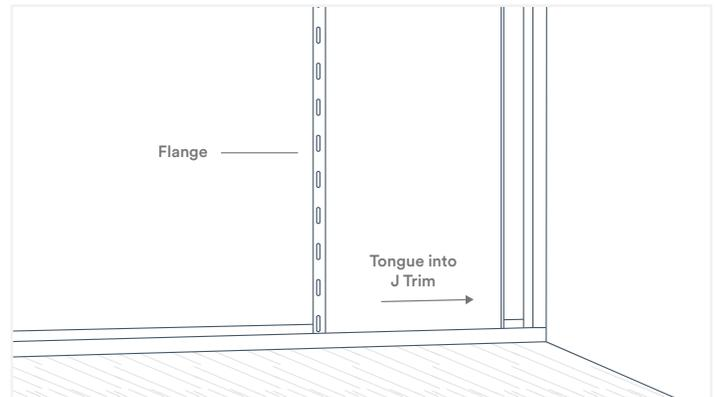

Fig. 9
4. Cut the length of the first panel for the first course. Place the panel with the tongue side in the corner trim and the screw flange side facing away from the wall (Fig 9). Ensure the panel is parallel to the outside wall before fastening. Leave a 1/8" gap between the tongue side of the panel and the adjoining trim. Fasten a minimum of once every 24" with the appropriate recommended fasteners. Remember to leave 1/4" of clearance at both ends of the panels for expansion and contraction. **Remember not to over tighten your fasteners.**